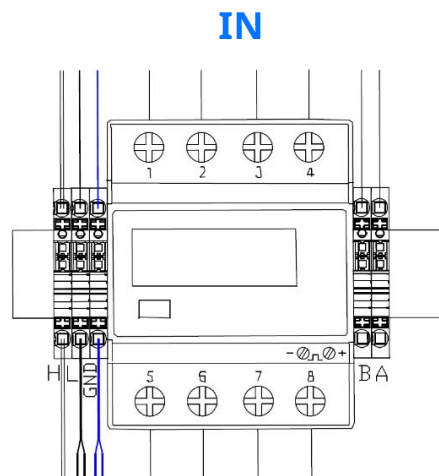

Fig. 57: Connection of communication cables (for the Enelion VERTICA pole equipped with the Enelion VERTICA link module).
utilizes one twisted pair of wires and the wire shield. Select one pair of wires (color) and consistently use it throughout the installation. The wire shield should be connected only at one end of each network section, as shown in the sample diagram (see Fig. 57).
- For an ENELION VERTICA pole equipped with an ENELION VERTICA link module, connect the cables to the rail connectors located on the upper DIN rail (on the right, left side) according to the markings (see Fig. 57).